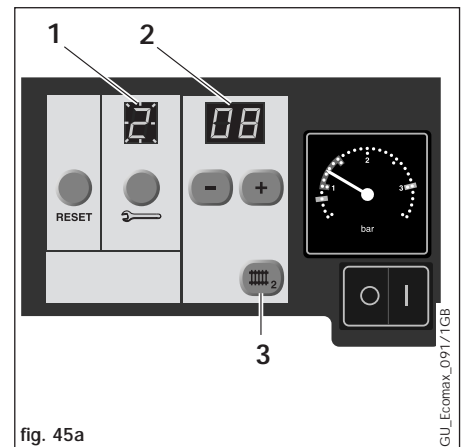

fig. 45a
ECOMax 600 boilers have an advanced multifunctional boiler display which provides key information during commissioning, operation and fault finding (fig. 45a).
When the main on/off control is in the position '1', the display will normally show a code which represents the operating status of the boiler in the status window (1, fig. 45a) and the actual boiler flow temperature in the temperature window (2, fig. 45a). This shows that the boiler is functioning correctly.
- Press the central heating temperature button  (3, fig. 45a).